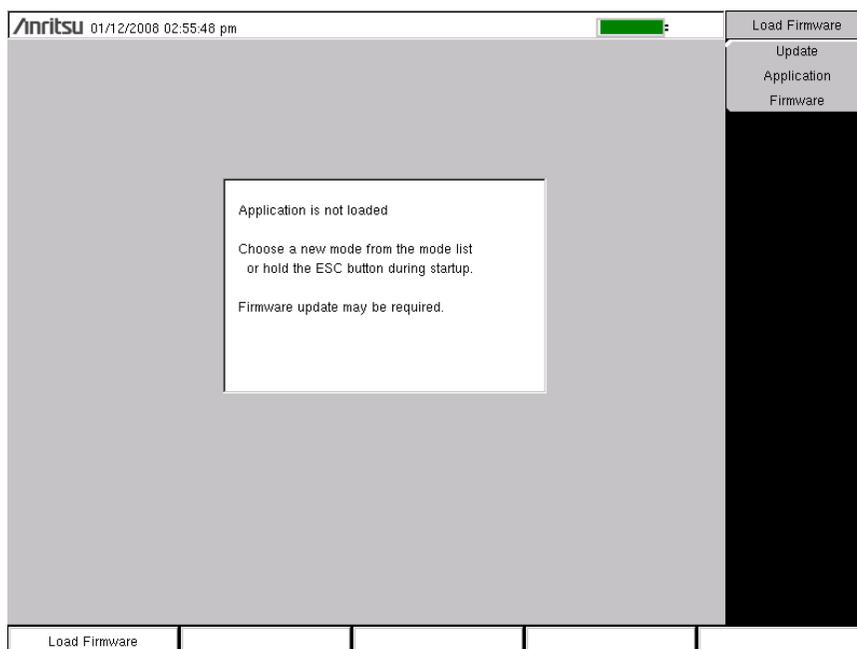

Figure 6-9. Firmware Main Menu
2. Press the follow key sequence: **Shift > System (8) > System Options > Reset > Update Firmware**. The Load Firmware main menu key is displayed (Figure 6-9).